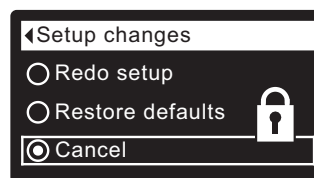

FIG. 86
8. Press the RIGHT (►) button. A flashing padlock icon will appear, as shown in Figure 86.
- 1-7. Go to the **Setup changes** screen (Figure 86) by following Steps 1-7 at left.